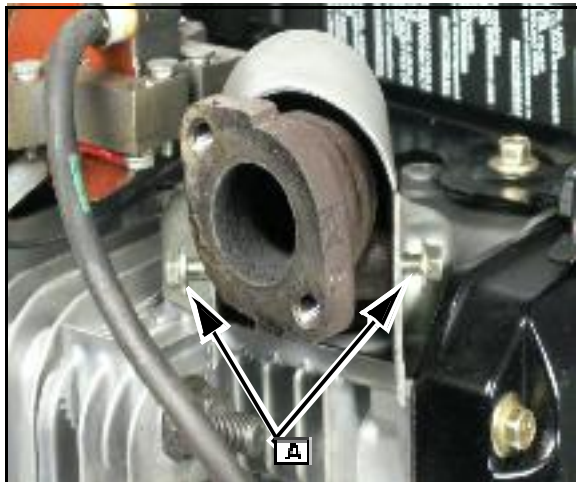

Fig. 10
1. Position new gasket, exhaust elbow and screws ([A] Fig. 10).
3. Place the exhaust elbow shield in position and secure with the two mounting screws ([A] Fig. 10). Torque screws to listed values.